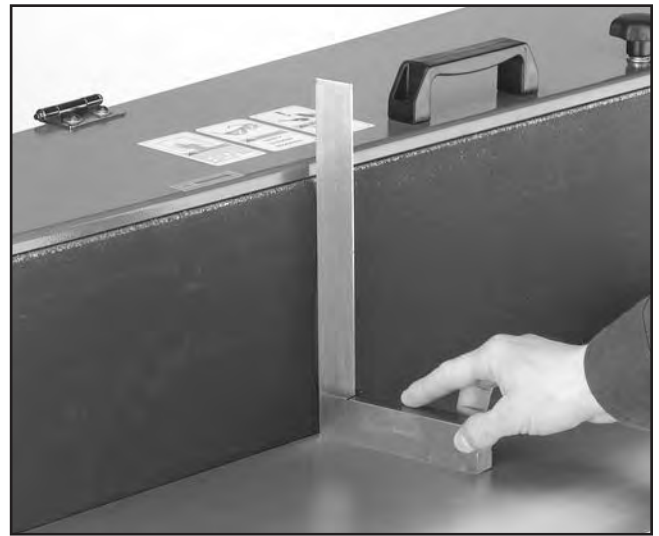

Figure 15. Setting main table to 90°.
6. We recommend using a square to adjust and/or verify the main table angle scale accuracy as shown in **Figure 15**.